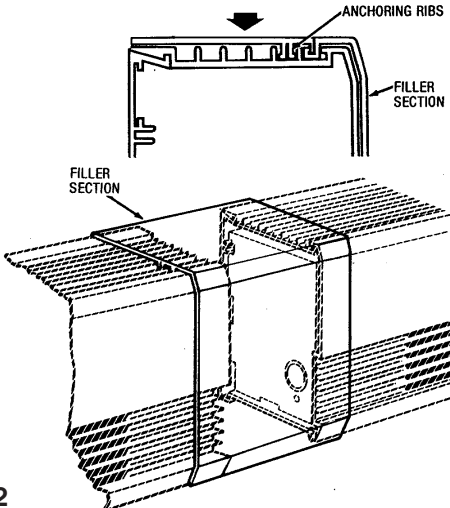

Figure 2
2. Position the filler section on top of the heater(s) and press anchoring ribs down between the outlet louvers (Figure 2). If necessary, protect the top of the filler section with a block of wood and tap the filler section gently into place.